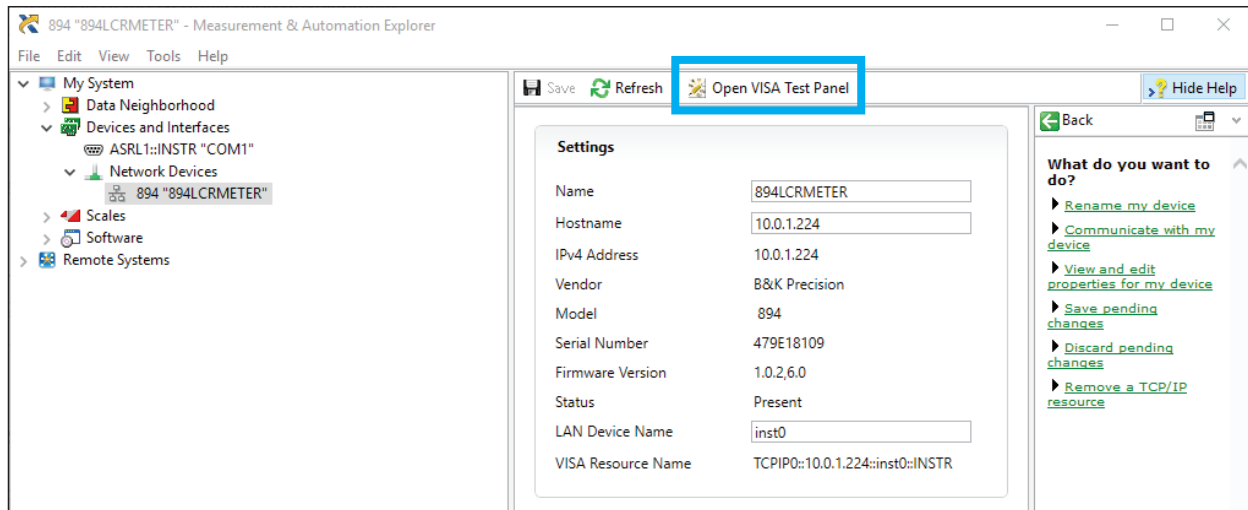

Figure 10
9. Now, the LCR meter can be controlled from the terminal emulator provided by NI MAX. Just click the "Open VISA Test Panel" to open communication (fig. 10).